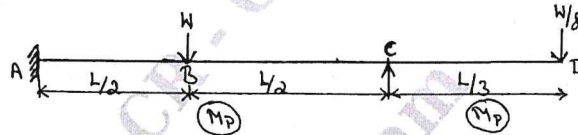

Fig.Q.2(b)
- b. A propped cantilever ABCD is loaded as shown in Fig.Q.2(b). Find the collapse load if the beam is of uniform cross section. (10 Marks)